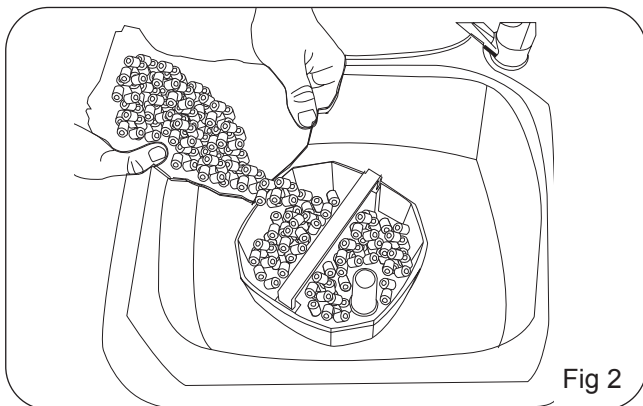

Fig 2
2. Remove the filter grid and the filter media baskets from the canister, remove all media from the plastic bags and place it back into its basket according to the media set up illustrated on page 4. Rinse the baskets with the media in tap water to remove excess dust. Fig 2